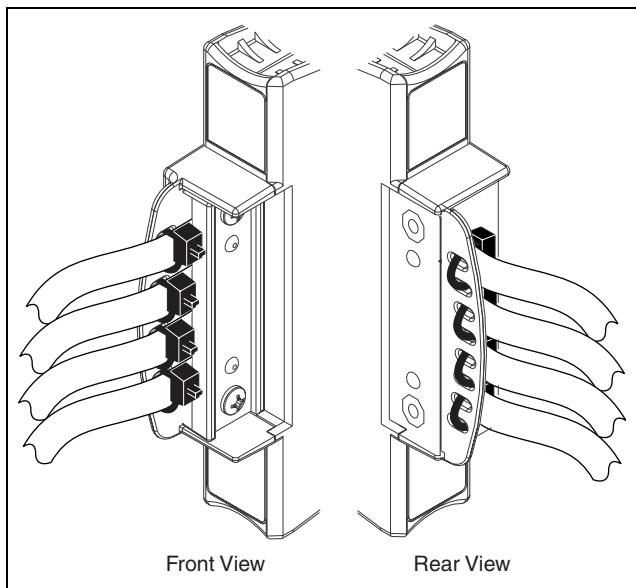

Figure 6. Tie Wraps
4. Install tie wraps as shown in Figure 6.